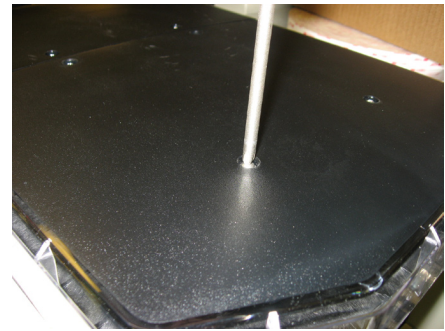

FIGURE 2
With a Phillips screwdriver, remove the (4) #8 X 5/8" Phillips Pan Head Hi-Lo Screws W Neoprene Washer (See Figure 2). Then gently lift the lens off. When finished carefully replace the lens making sure the lens gasket is not misplaced, then replace the lens mounting screws making sure the neoprene washers are in place.